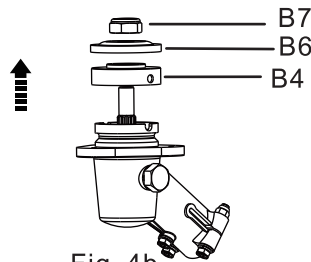

Fig. 4b
- c). Insert the Hex key 4 mm (F3) into the hole to lock the spindle (B2).
- d). Loosen the safety nut (B7) and take it off together with the locking flange (B6) and backing flange (B4). (See fig.4b)